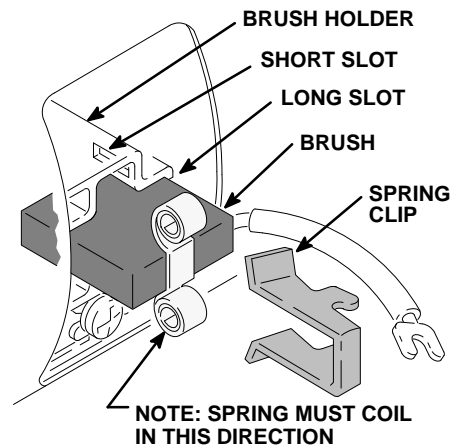

Fig 25-4
6. Install a new brush so the lead is in the long slot of the holder. See Fig 25-4.
8. Place the spring on the brush as shown in Fig 25-4.
9. Install the spring clip and push it down to hook the short slots in the housing. See Fig 25-4.